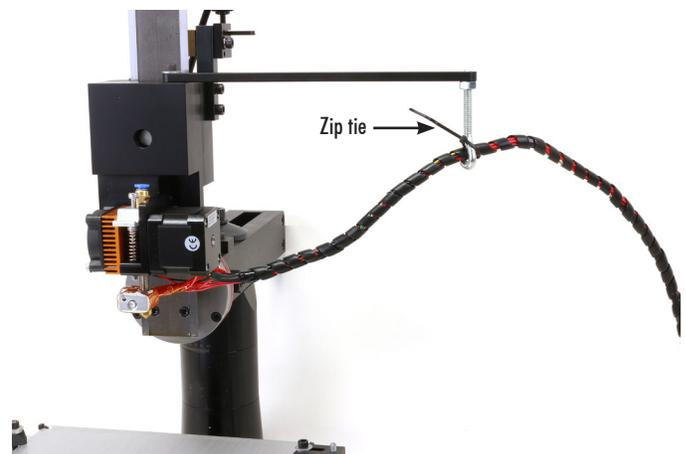

FIGURE 3
- d. Secure the wire cable into the hook bolt to hold them up and out of the way. Then zip tie them in place. If you don’t have a zip tie a twisty tie from a bread wrapper will work just as well. (see Figure 3)
UBUNTU FIGURE 3